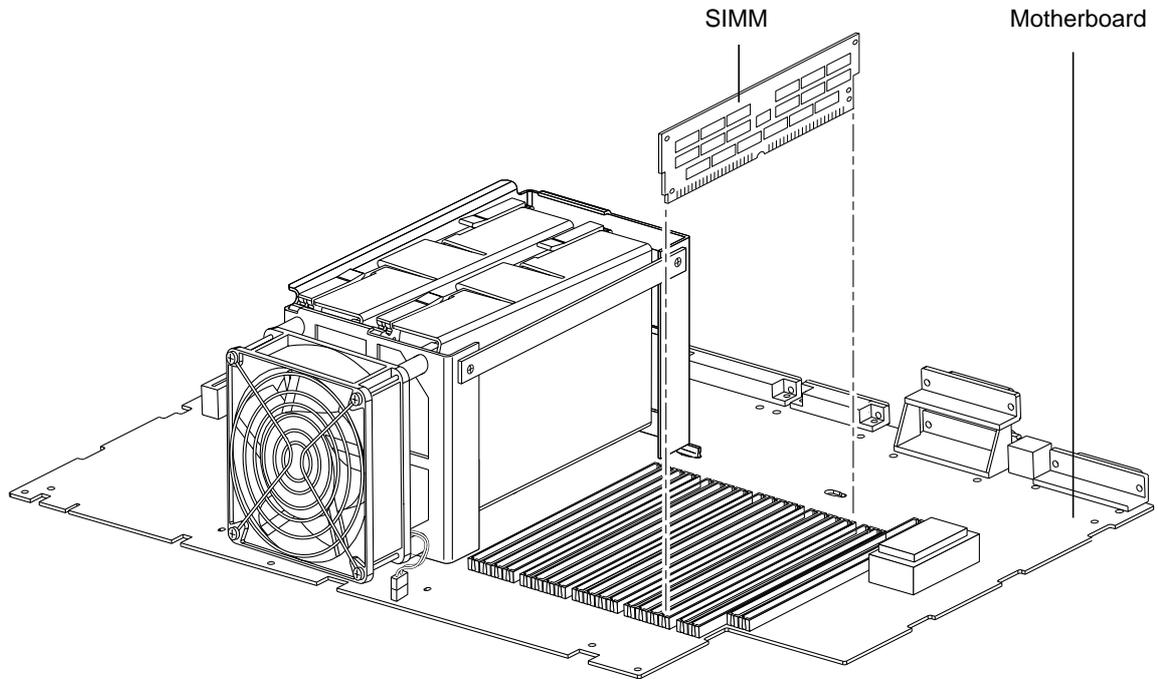

FIGURE 10-8 Removing and Replacing a SIMM
8. Remove the SIMM from the socket (see FIGURE 10-8 on page 10-19).